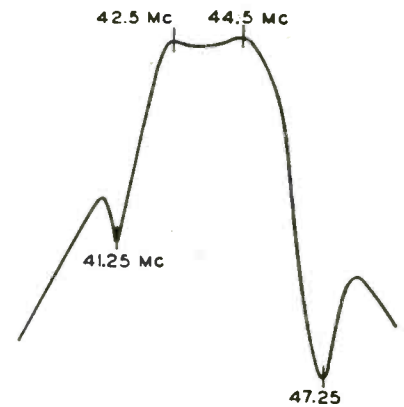

Fig. 5—Response curve for L3, L4, L5, T1, and T2.
4. Connect the sweep generator through the 1000- $\mu$ f mica capacitor to grid No. 1 of V2. Modulate the marker calibrator and loosely couple its output to the sweep-generator lead. Adjust the upper screw disk of L5 for minimum response of the modulated signal at 47.25 mc. Adjust the lower screw disk of L5 for minimum response of the modulated signal at 41.25 mc. Remove the modulation and adjust the inductances of L3 and L4 to obtain the response curve shown in Fig. 5.